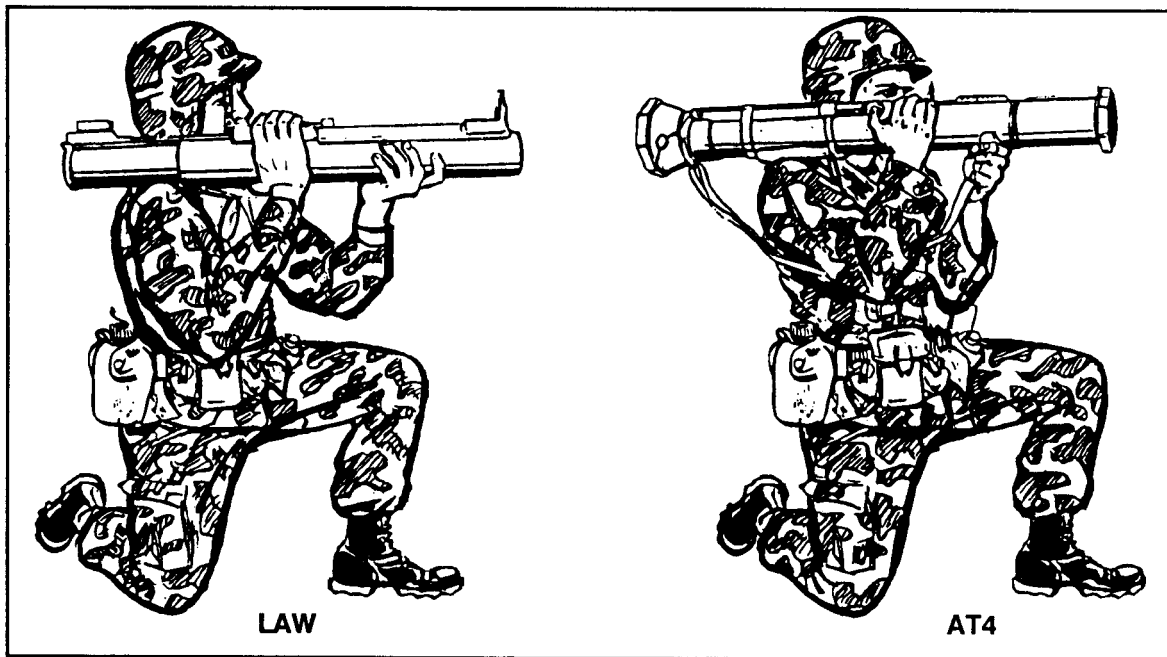

Figure 5-4. Basic kneeling positions.
a. **Basic Kneeling Position.** Kneel from the basic standing position onto your right knee, keeping your left thigh parallel to the ground. Rotate your lower right leg 90° to the left. (This removes your right foot from exposure to the backblast.) Keep your right thigh and back straight and perpendicular to the ground. Point your left foot in the direction of fire and tuck your elbows into your sides. Though this is not a supported position, it should be a firm, stable one. Figure 5-4, page 5-4, shows the basic kneeling positions for the LAW and AT4.